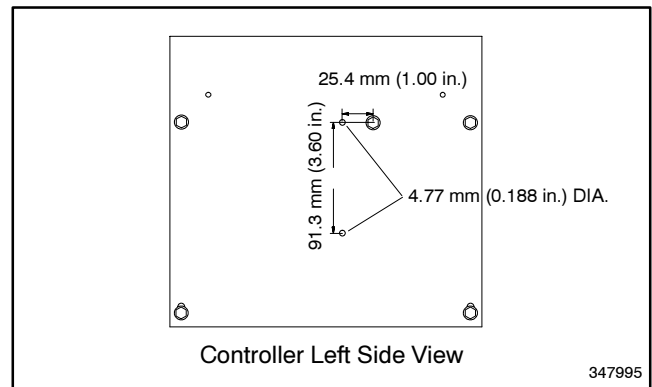

Figure 2-7 Mounting Hole Drill Pattern
6. If the unit is not equipped with a DDEC interface circuit board, carefully drill two mounting holes in the side panel of the controller. Do not allow metal chips to fall into the controller enclosure. Deburr holes and remove metal chips. See Figure 2-7.